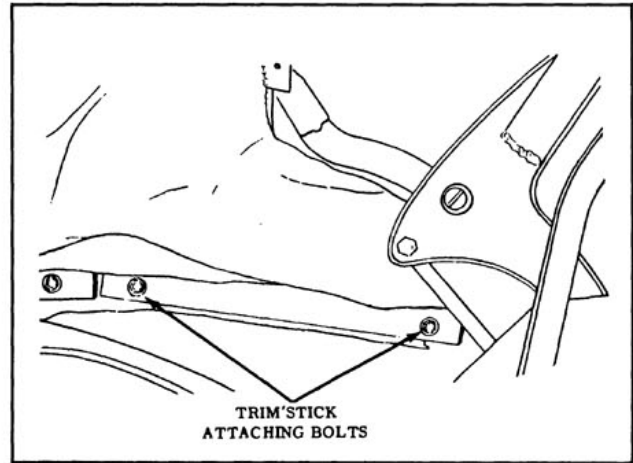

Fig. 16-128 Rear Quarter Trim Stick
8. At each rear quarter area remove attaching bolts securing rear quarter trim stick assembly to rear quarter inner panel. (Fig. 16-128)